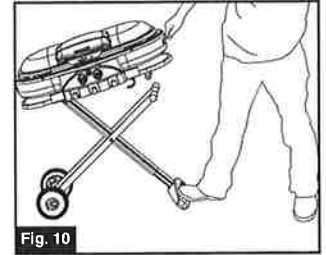

Fig. 10
- Continue to pull grill handle toward you until stand is fully extended. (Fig. 10)